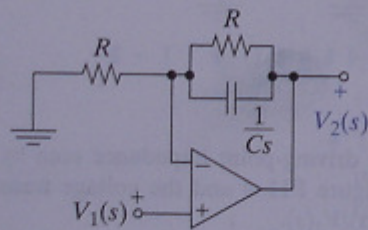

FIGURE P11-7
- 11-7 Find the voltage transfer function $T_V(s) = V_2(s)/V_1(s)$ in Figure P11-7. Select values of R and C so that $T_V(s)$ has a pole at $s = -500$ rad/s.